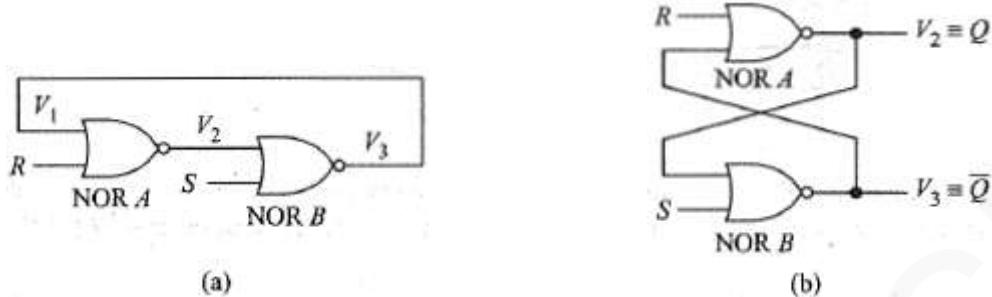

Figure 8.3: NOR-gate flip-flop
- As shown in Fig 8.3, two 2-input NOR gates are connected to form a flip-flop.